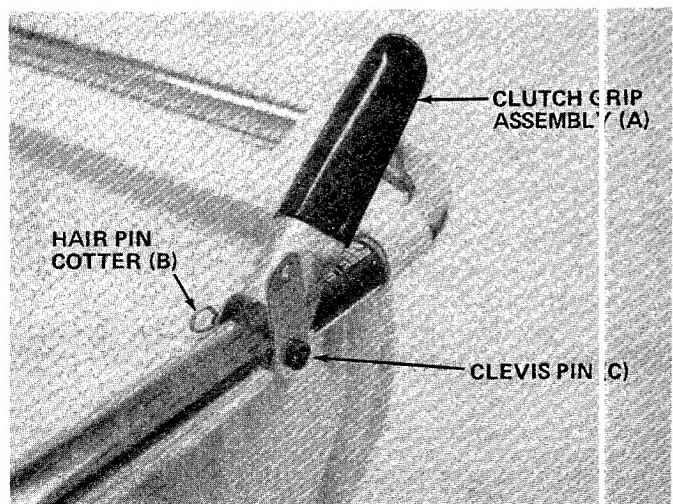

FIGURE 9.
6. Assemble the clutch grip (A) to the left hand side of upper handle. Secure in place with clevis pin (C) and hair pin cotter (B). See figure 9. Head of clevis pin should be to the outside of handle.